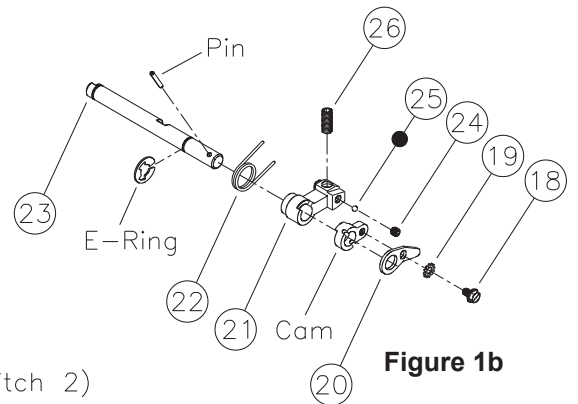
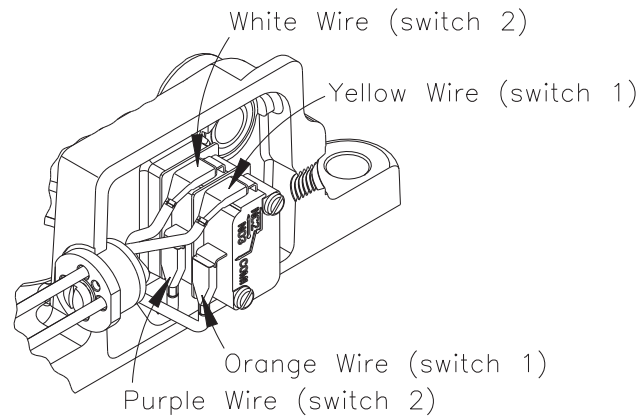

Figure 1b
Figure 1c
1. Remove three machine screws (1), cover (2), and seal (3) from base (9).
2. Remove plug (15) from base (9). Remove o-ring (14) from plug (15).
3. Through plug (15) hole in base (9) turn set screw (26) counter-clockwise until set screw (26) no longer contacts switch (7). See Figure 1b.
4. Loosen screw (10), carefully remove shaft assembly (17) while separating pedal assembly (11) from base (9). **NOTE: Spring (22) must be partially compressed while removing shaft assembly (17). See Figure 1b.**
5. Remove cap screws (12) and washers (13). Separate valve assembly (16) from base (9). TO SERVICE VALVE ASSEMBLY (16) REFER TO BRAKE VALVE SERVICE INSTRUCTIONS.
6. Remove two machine screws (4).
7. Remove switch (5) while disconnecting the harness wires (27) from switch (5).
8. Remove spacer (6).
9. Remove switch (7) while disconnecting the harness wires (27) from switch (7).
10. Remove spacer (8).
11. Loosen the screw on the wire harness (27) grommet and remove the wire harness from base (9).
11. Remove set screw (24) and knob (25) from cam (17). See Figure 1b.
1. Install new knob (25) and set screw (24) in cam (17). Tighten set screw 1.1-1.7 N·m (10-15 lb·in). See Figure 1b.
2. Install new wire harness (27) in base (9) and torque grommet screw 1.13-1.70 N·m (10-15 lb·in).
3. Install two machine screws (4) through new switch (5), spacer (6), new switch (7), and spacer (8). While holding switch assembly in your fingers, reattach harness wires to the proper switch pins, see Figure 1c.
4. Apply one drop of Loctite 242 or equivalent to the exposed threads of machine screws (4) and install switch assembly into base (9). Align and torque machine screws (4) 0.11-0.34 N·m (1-3 lb·in).
5. Install valve assembly (16) to base (9) using cap screws (12) and washers (13). Torque cap screws 24.4-29.8 N·m (18-22 lb·ft).
6. Lubricate shaft assembly (17) with a good quality polymer base moly grease. Align holes of base (9) and pedal assembly (11) and carefully install shaft assembly (17). Note direction of shaft assembly (17). Make sure spring (19) on shaft assembly (17) is properly positioned and does not impede seating of shaft assembly. Spring (22) must remain in slot of cam (21) during assembly. **NOTE: Be careful not to damage switches.**
7. Be sure pedal assembly is equally spaced between ears of base (9), moves freely, and is in an upright position. Torque screw (10) 7.0-7.7 N·m (62-68 lb·in).
8. Install new o-ring (14) on plug (15). Plug (15) will be installed in base (9) after adjustment to switches have been made.
9. New seal (3), cover (2), and three machine screws (1) will be installed after adjustment to switches have been made.
10. Adjustment of set screw (26) and possibly cam plate (20) will be necessary for the proper settings of stop lamp switch (5) and transmission neutralizer switch (7). Proceed to page 4 for switch adjustment information.
3. Use an ohmmeter to verify switches are functioning properly. Refer to Figure 1c on page 3 for wire contact information.